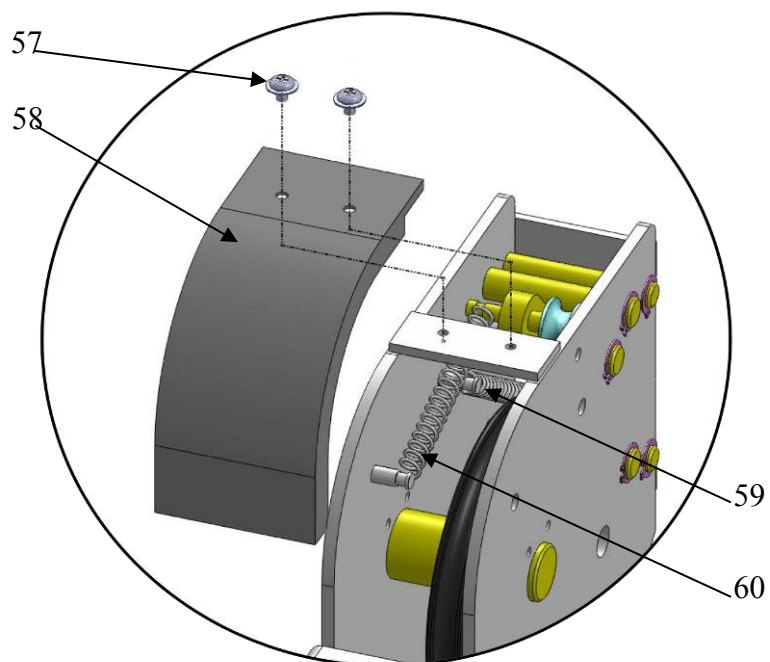

Fig. 30
M. Install spring and safety cover of cross beam (See Fig. 30).